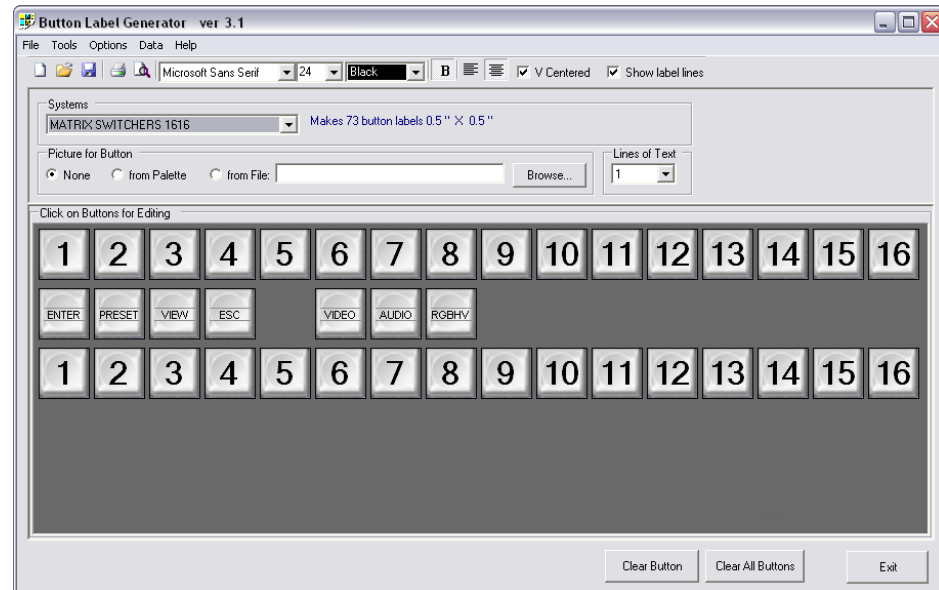

Figure 5-18 — Extron's Button-Label Generator window
1. To run the Button-Label Generator program, click **Start > Programs > Extron Electronics > Button Label Generator > Button Label Generator**. The Button-Label Generator window appears (figure 5-18).